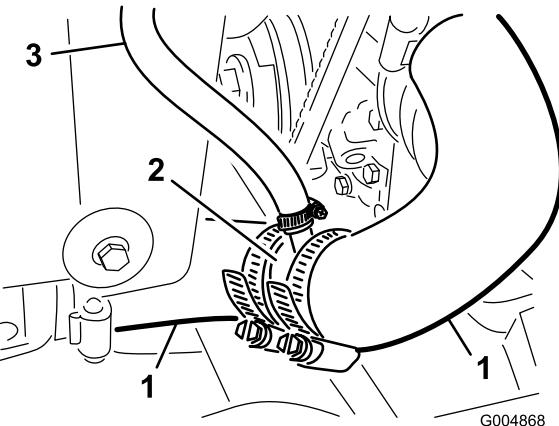
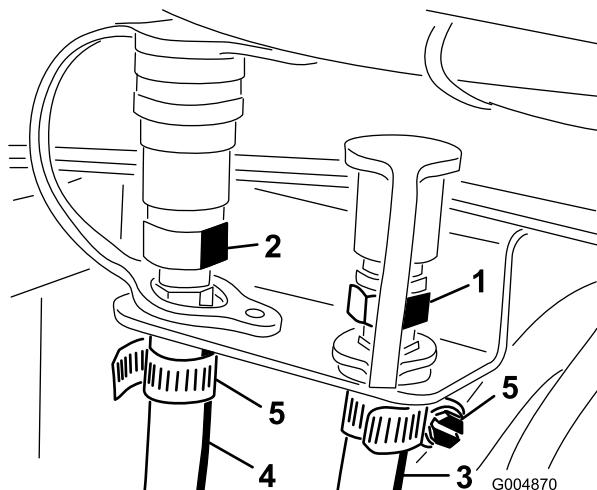
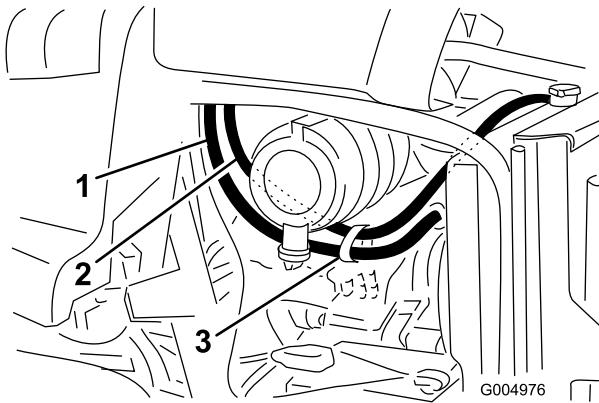

Figure 18
Figure 19
Figure 20
14. Install the tee fitting into the hoses and secure with hose clamps as shown in Figure 18.
15. Connect the 140 cm (55 inch) length of previously cut hose to the new tee fitting in the radiator hose (Figure 18). Secure the hose to the tee fitting with a hose clamp. Route the hose behind the radiator over flow tank, up the right side of the radiator, across the top of the radiator to the left side and under the air cleaner as shown in Figure 19. Insert a hose clamp onto the hose and connect the hose to the nipple coupling (Figure 20). This is the return hose.